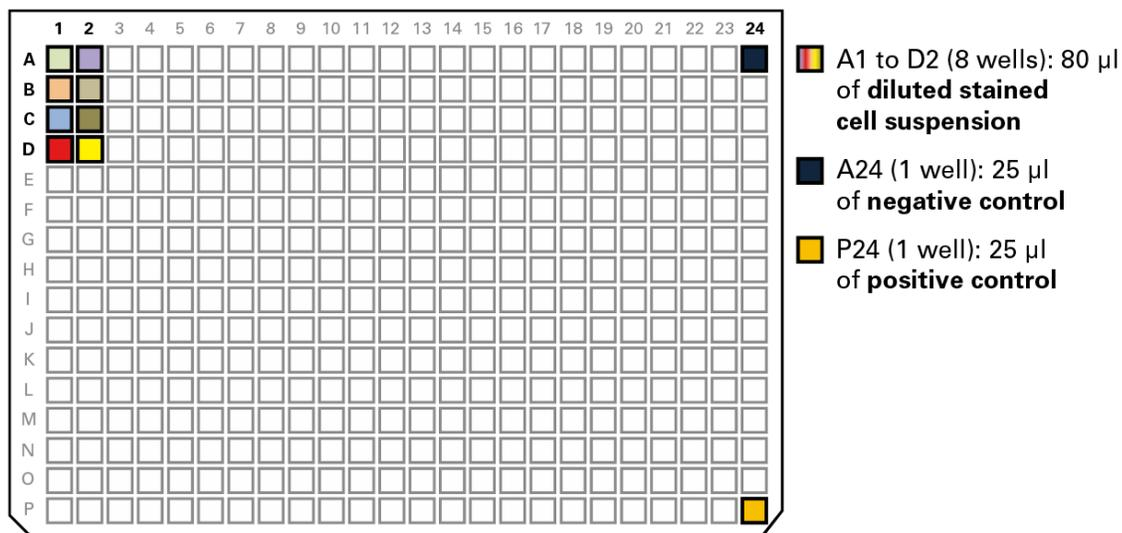

Figure 6. Setting up the 384-Well Source Plate for dispensing cell samples and controls.
[‡]The 1,000-µl total volume of diluted stained cell suspension is sufficient for distributing 80 µl of cell suspension in each of eight source wells (see Figure 6, below).
7. Add positive control and negative control to the 384-Well Source Plate as indicated in the following steps and in Figure 6 (below):
9. Using a 200- μ l pipette tip, slowly and carefully load 80 μ l of cell suspension into wells A1, A2, B1, B2, C1, C2, D1, and D2 of a 384-Well Source Plate as indicated in Figure 6 (below).